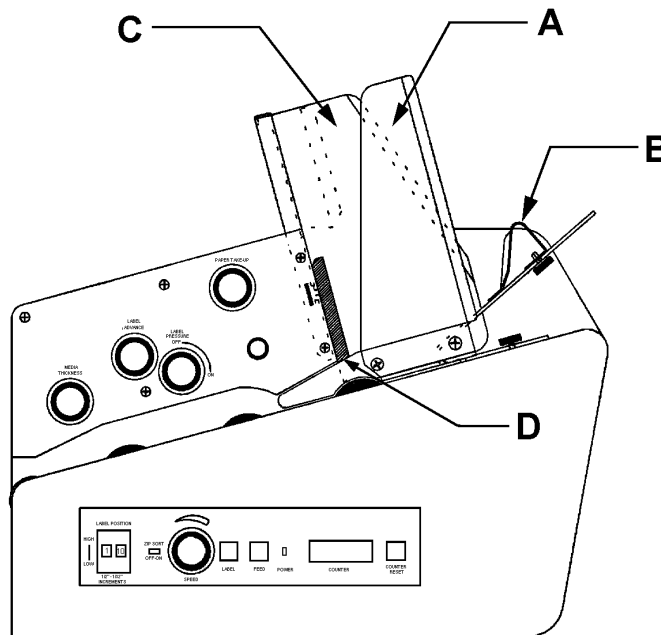

Figure 2
1. Loosen thumbscrew on Separator **[Figure 2-D]**
1. Insert a stack of envelopes between Guides **[Figure 2-A and C]**.
3. Adjust Media Support so trailing edge of the bottom envelope rests approximately on middle of spring **[Figure 2-B]**.
4. Make sure stack is inserted with flap down and toward Stripping Devices **[Figure 2-D]**.